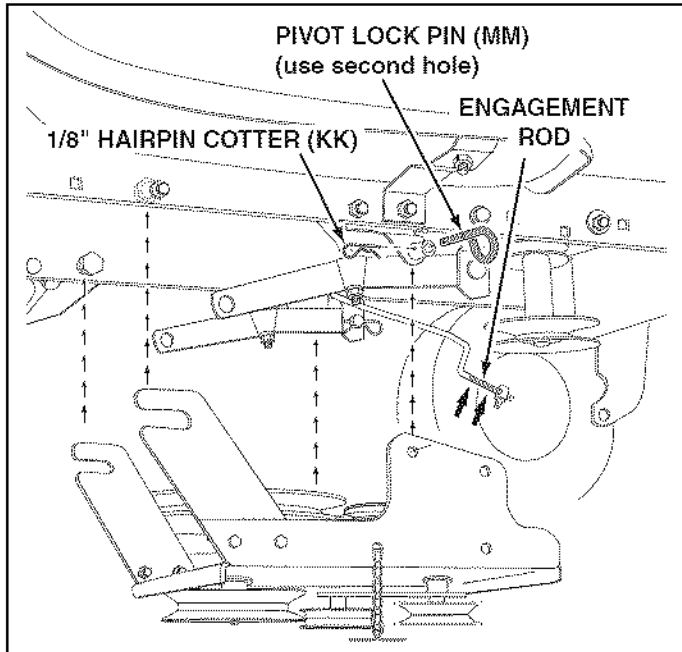

FIGURE 32 **RIGHT SIDE VIEW**
STEP 32: (SEE FIGURE 32)
- Attach the clutch/idler assembly to the tractor frame as follows. Hook the assembly's notched arms onto the two shoulder bolts you assembled to the inside of the tractor frame. Lift the front of the assembly and attach it to the R.H. and L.H. hanger brackets using two pivot lock pins (MM) and 1/8" hairpin cotters (KK).